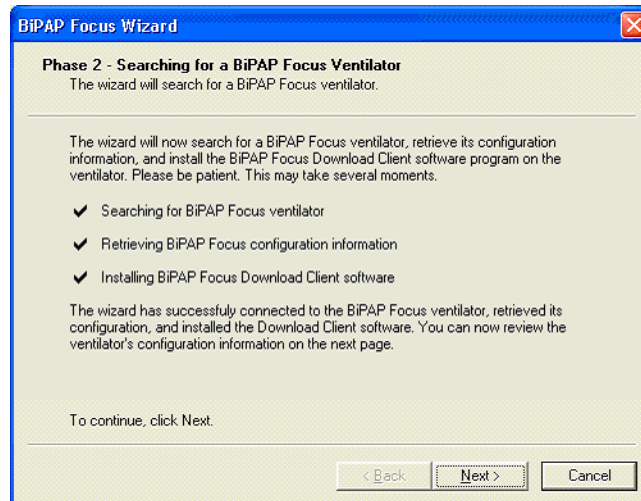

Figure 6-13: Communications Software Connection
4. The software connection process dialog box appears identifying the steps including, Searching for the ventilator, retrieving ventilator configuration information, and installing the communications software (Figure 6-13). Click **Next**.